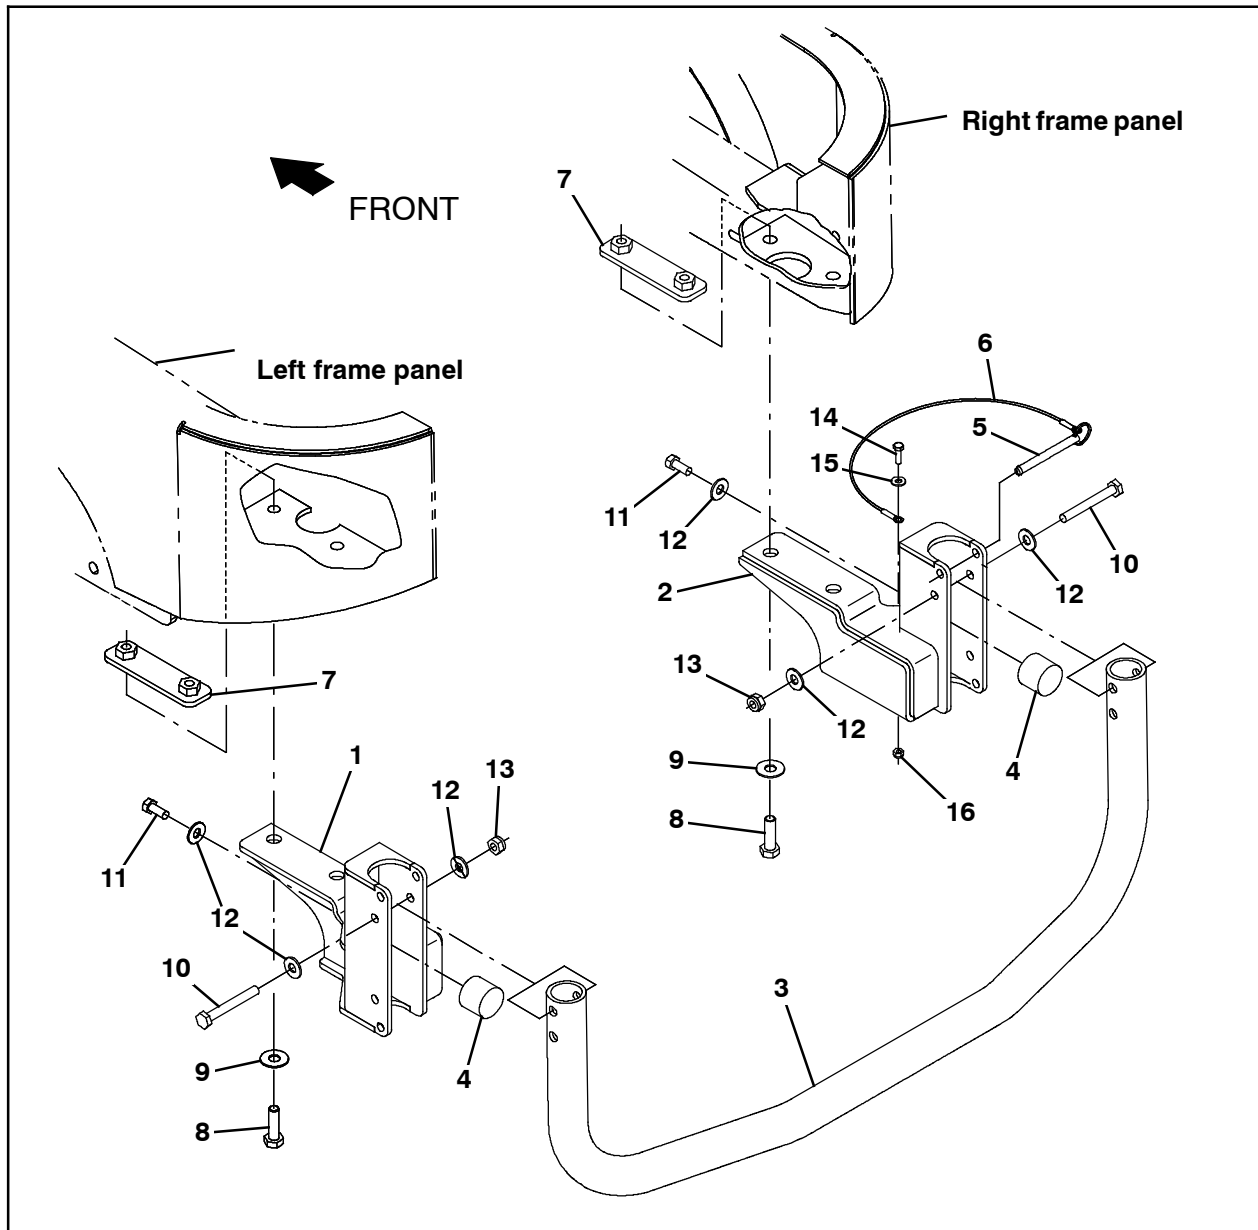

FIG. 1
1. Use one hex screw (11) and one flat washer (12) to install a bumper (4) onto the left squeegee bumper bracket (1) and the right squeegee bumper bracket (2). (Fig. 1)
2. Arrange a doubler plate (7) into the right frame panel and the left frame panel. (Fig. 1)
3. Use two M12 hex screws (8), two flat washers (9), and the doubler plate in the left frame panel to install the left squeegee bumper bracket (1) onto the left frame panel. Do not tighten the hex screws. The hex screws are tightened during final adjustment. (Fig. 1)
4. Use two M12 hex screws (8), two flat washers (9), and the doubler plate in the right frame panel to install the right squeegee bumper bracket (2) onto the right frame panel. Do not tighten the hex screws. The hex screws are tightened during final adjustment. (Fig. 1)
5. Use two M10 hex nuts (10), four flat washers (12), and two M10 lock nuts (13) to install the guard tube (3) onto the left squeegee bumper bracket (1) and right squeegee bumper bracket (2). (Fig. 1)
6. Install the hitch pin (5) onto the cable (6). (Fig. 1)
7. Tighten all loose hardware from the previous steps. (Fig. 1)
8. Use one M6 hex nut (14), two flat washers (15), and one M6 hex nut (16) to install the hitch pin (5) / cable (6) onto the right squeegee bumper bracket (2). (Fig. 1)
9. Use the hitch pin (5) to hold the guard tube (3) in the raised position when not using the rear squeegee guard. Store the pin in the holes in the right squeegee bumper bracket (2) when using the rear squeegee guard. **Do Not** leave the hitch pin (5) / cable (6) dangling loose when using the rear squeegee guard. (Fig. 1)